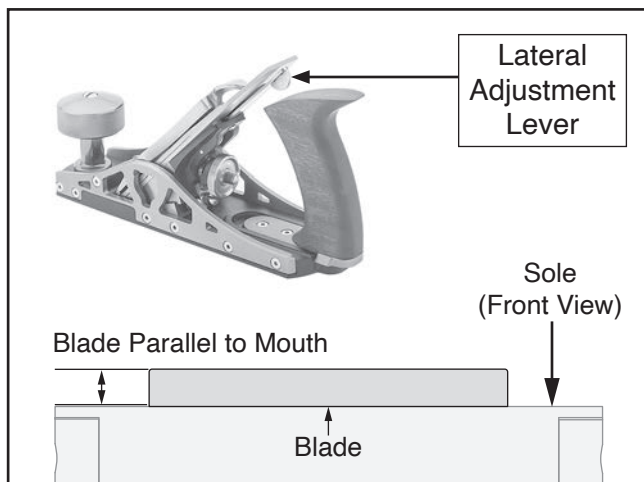

Figure 6. Lateral blade adjustment controls.
1. Tilt lateral adjustment lever left or right to adjust blade side-to-side (see **Figure 6**).
2. Verify blade is parallel with mouth and there is an even amount of space on each side of blade (see **Figure 6**).